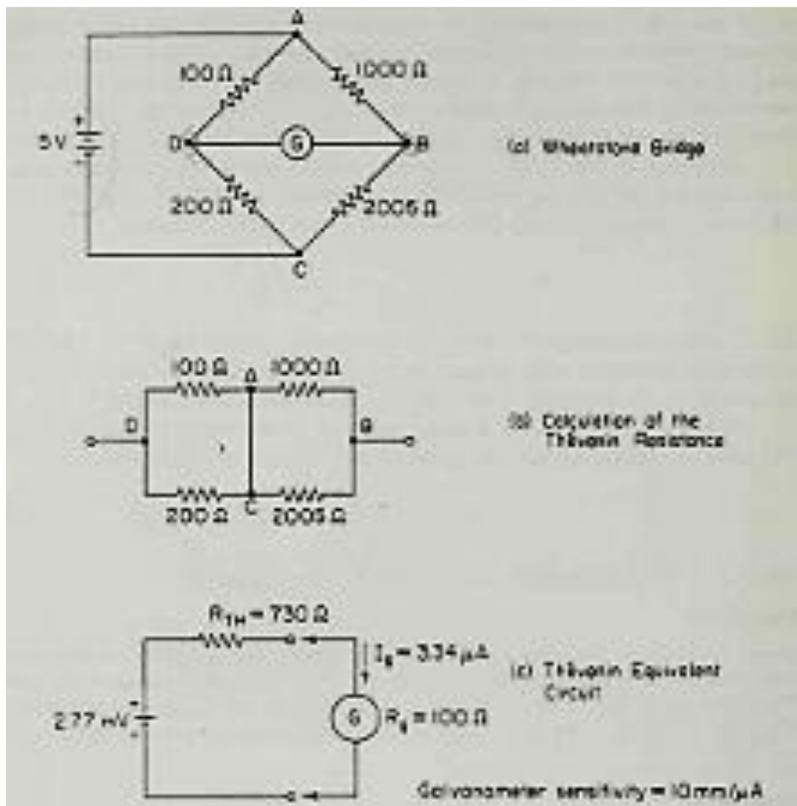

Fig.5-3 Application of Thevenin's theorem to the bridge (a) Whetstone bridge (b)
2. Insufficient sensitivity of the null detector (G).
4. Thermal emf in the bridge circuit and the (G) can cause problems when low value resistors are being measured.
-Example: Fig.5-3 shows schematic diagram of Whetstone bridge with its values. The G has a current sensitivity of $10\text{mm}/\mu\text{A}$ and an internal resistor of 100Ω . Calculate the deflection of G caused by the 5Ω unbalance in the arm BC.
can be observed on the G scale determine if this new G is capable of detecting the 5Ω unbalance in arm BC of Fig.5-3(a).